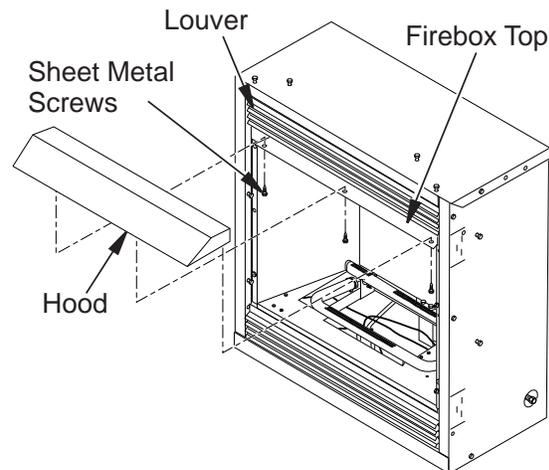

Figure 3 - Assembling Hood
6. Insert screws as shown in Figure 3. Tighten screws firmly.